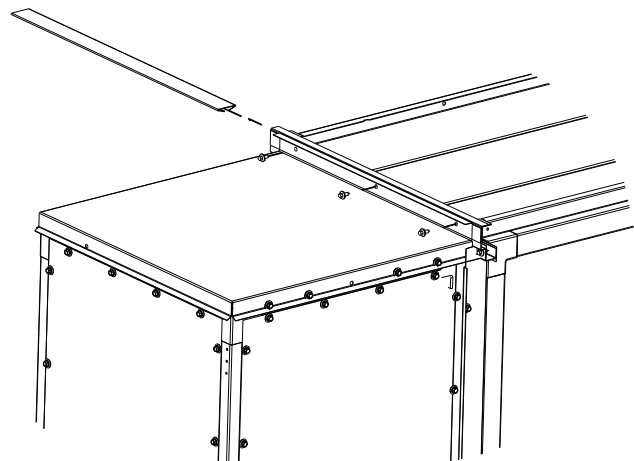

Fig. 68 — Screwing CCH Roof to Drain Channel
14. Screw cover top to drain channel. See Fig. 68.